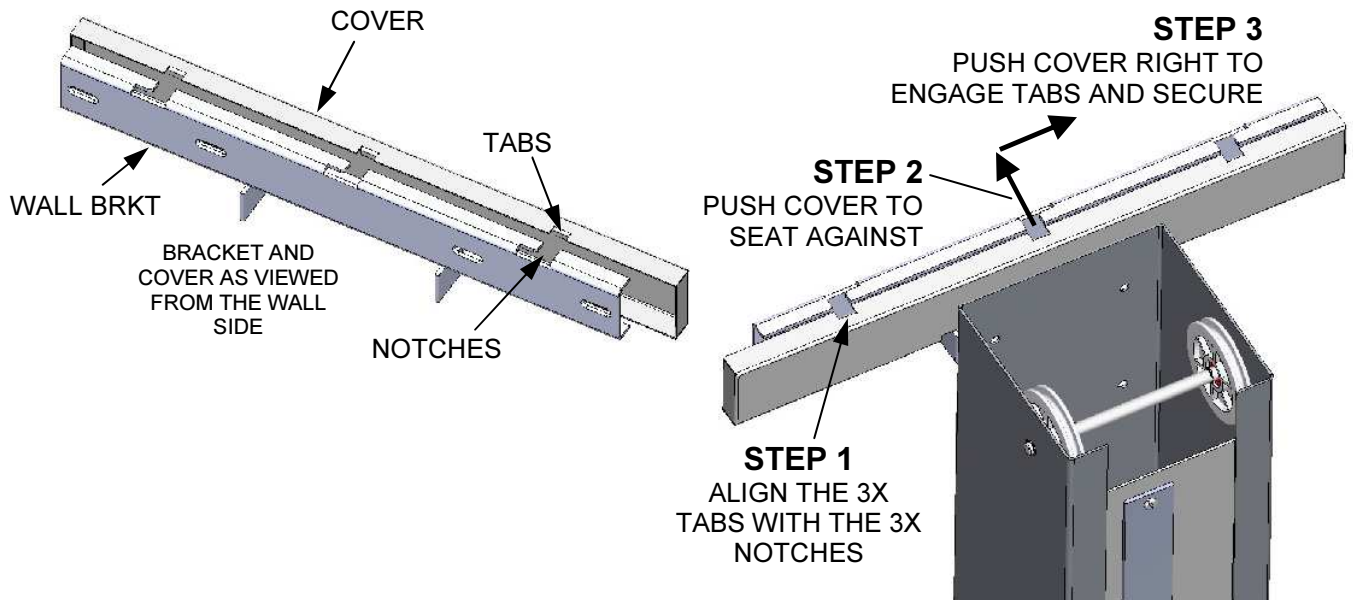

Figure 6: Installing the Wall Bracket Cover
- 11) Install the wall bracket cover (see figure 6, Pg. 10).